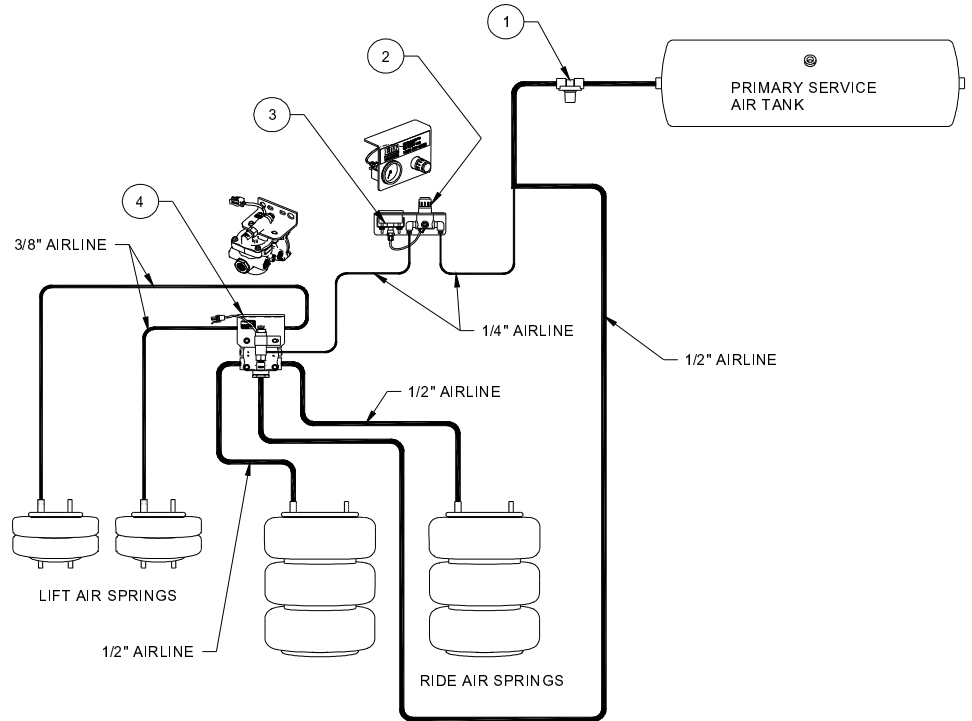

FIG. 2
- 1) Use 1/4", 3/8", and 1/2" DOT airline for all plumbing between fittings as shown per figure 2. Use brass DOT fittings for all plumbing connections. Use 14-gage primary wire for all electrical connections.